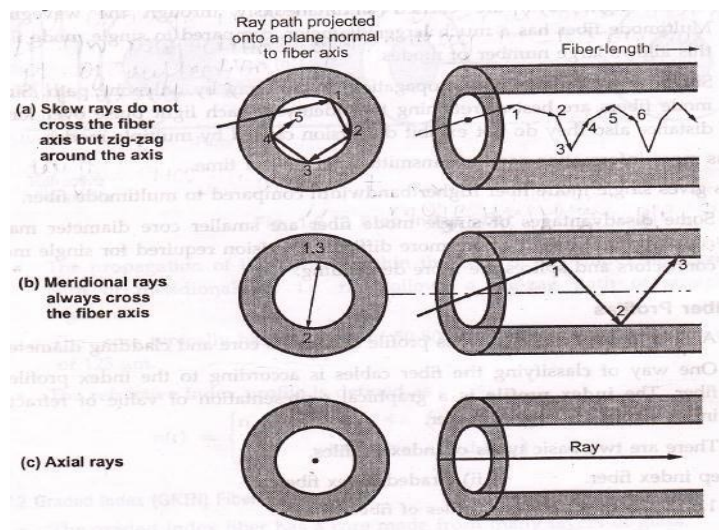

Fig:1.6.11 Different Ray Propagation
- The skew rays** does not pass through the center, as show in Fig. 1.6.11 (a). The skew rays reflects off from the core cladding boundaries and again bounces around the outside of the core. It takes somewhat similar shape of spiral or helical path.
- The **meridional** ray enters the core and passes through its axis. When the core surface is parallel, it will always be reflected to pass through the enter. The meridional ray is shown in fig. 1.6.11 (b).
- The **axial ray** travels along the axis of the fiber and stays at the axis all the time. It is shown in fig. 1.6.11 (c).